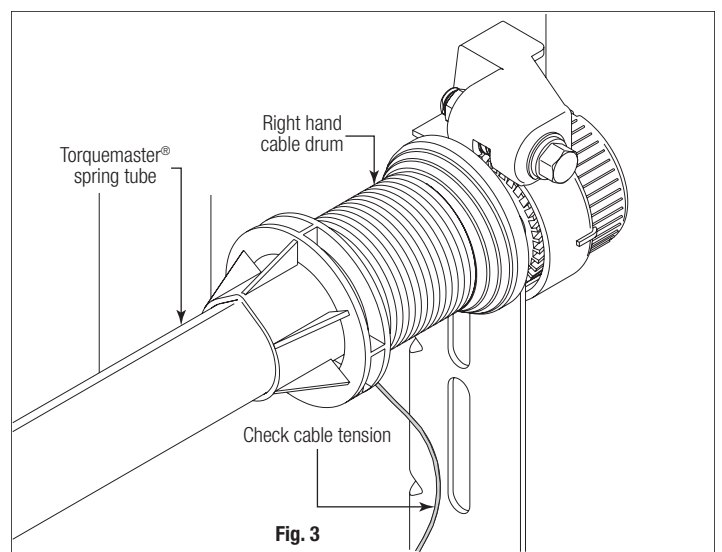

Fig. 3
**STEP 3:** Verify that the spring tension has been released by pulling the counterbalance cables on the right and left hand cable drums away from the header (Fig. 3). If the spring tension has been released, the cables will be loose and the TorqueMaster® spring tube should be free to rotate in either direction.